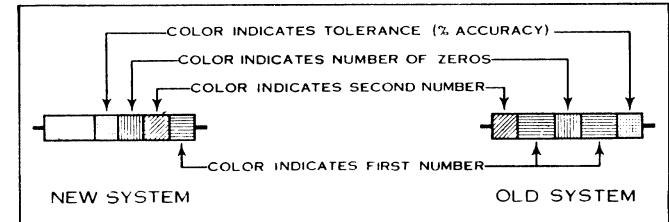

FIGURE 12. RMA RESISTOR COLOR CODE CHART
EXAMPLE: A 50,000 ohm resistor of standard tolerance is indicated by a green ring (5), a black ring (0), and an orange ring (000), as shown in the new system of marking in Figure 12. In the old system of marking, at the right of Figure 12, the resistor would be painted green (5), with a black end (0) and an orange dot or ring in the center (000).